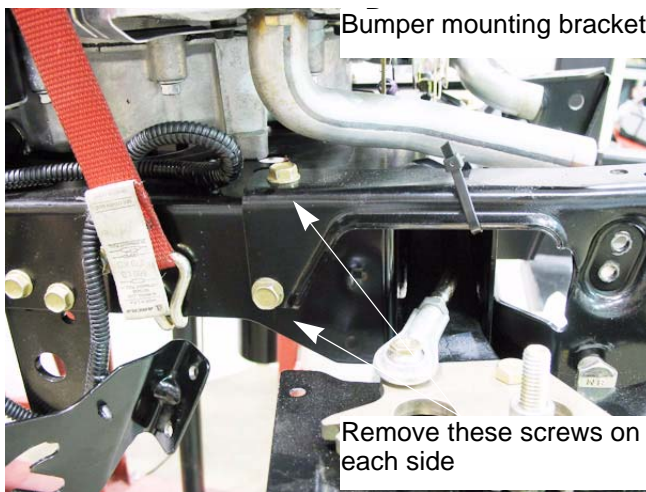

Figure 6B.89
6. Remove the pivot bar shoulder bolts. See Figure 6B.90.